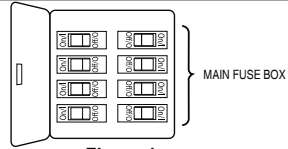

Figure 1
1. Remove the hanger ball portion from the downrod/hanger ball assembly by loosening the set screw in the hanger ball until the ball falls freely down the downrod. Remove the pin from the downrod, then remove the hanger ball. Retain the pin and hanger ball for reinstallation in Step 6. (Figure 1)
- ☐ **1.** Install light bulbs into sockets by threading in a clockwise direction. (Figure 1)
To avoid possible fire or shock, be sure electricity is turned off at the main fuse box before hanging. (Figure 1)